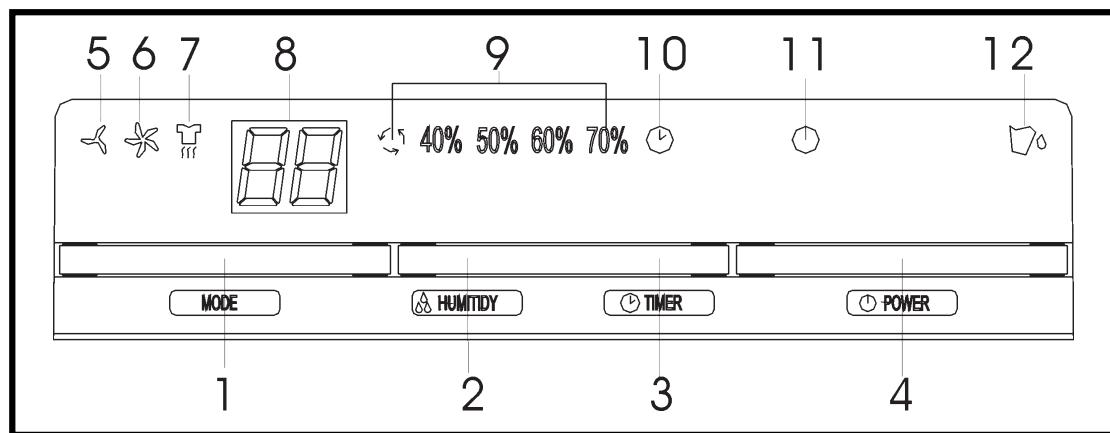

Fig. 7
►► 5. PROGRAMMING FEATURE (FIG. 7)